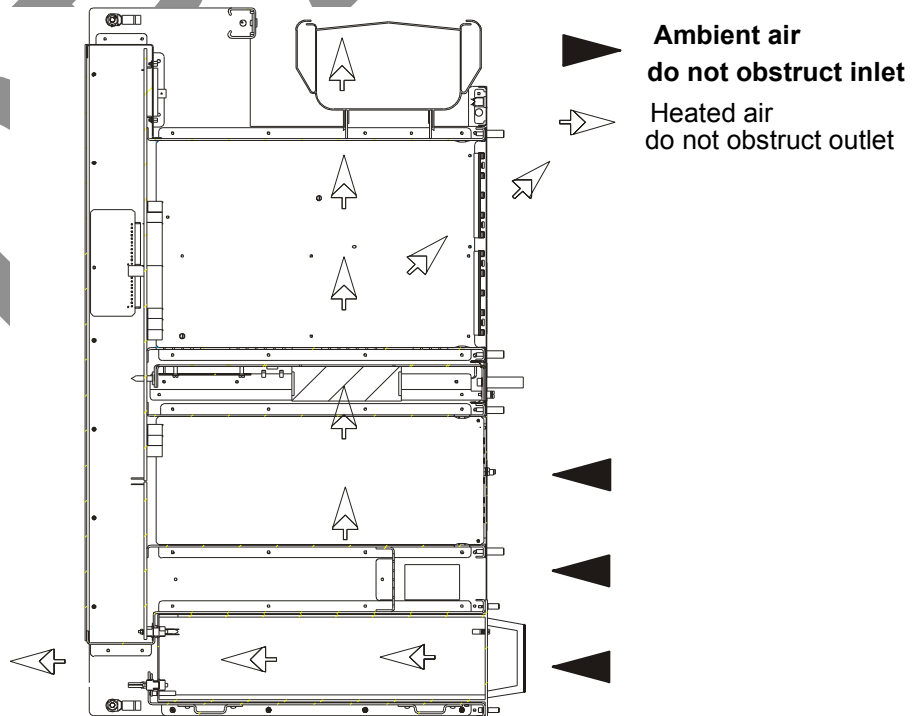

Figure 89 – Ventilation of the DBS chassis (cross-section)
- The installation of rack (optional) and chassis must enable the ventilation shown *Figure 89 – Ventilation of the DBS chassis (cross-section)*. Do not obstruct the air inlets and outlets.